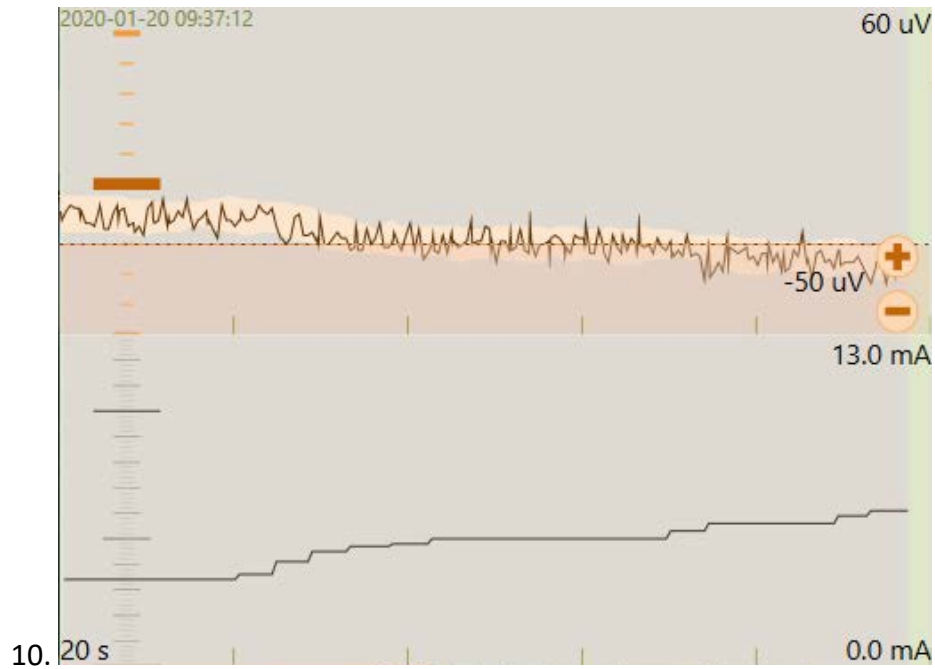

Figure 6.17: The ECAP measurement (top) and current (bottom) rolling plot.
9. The ECAP amplitude and current rolling plot (Figure 6.14A) displays the ECAP amplitude (top) and current (bottom) over time. You can use the  and  buttons to adjust the minimum ECAP measurement value displayed. ECAP amplitudes below the ECAP Minimum (dotted black line, see Sections 6.10.1 and 8.6) are shaded in red (Figure 6.17).
Note: Some artefact signals may introduce an offset in the measured ECAP amplitudes, including negative offsets with the correlation filter (see Figure 6.17). Ensure that all ECAP amplitudes are measured by setting the ECAP minimum to a value less than the ECAP amplitudes measured during collection of the activation plot and posture testing (see below and Section 8.2).